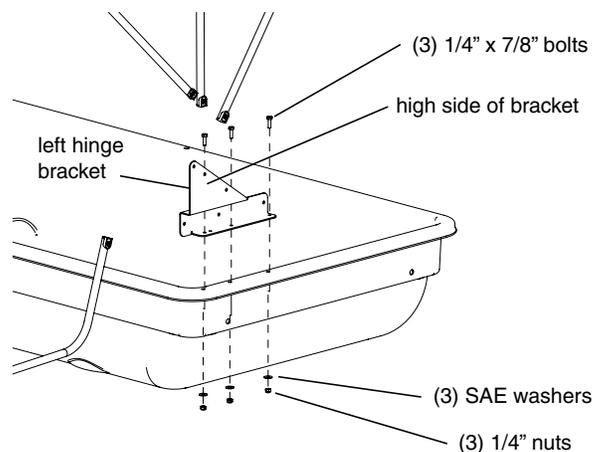

FIGURE 1B (left side shown)
1. Attach the left hinge assembly (68426) to the upper lip of sled using (3) provided 1/4-20 x 7/8" bolts, nyloc nuts and SAE washers. **SEE FIGURE 1B.**
NOTE: *Be sure hinge assembly is orientated as shown in FIGURE 1B, with high sides of hinges placed to the front of sled and hinge poles to the inside.*